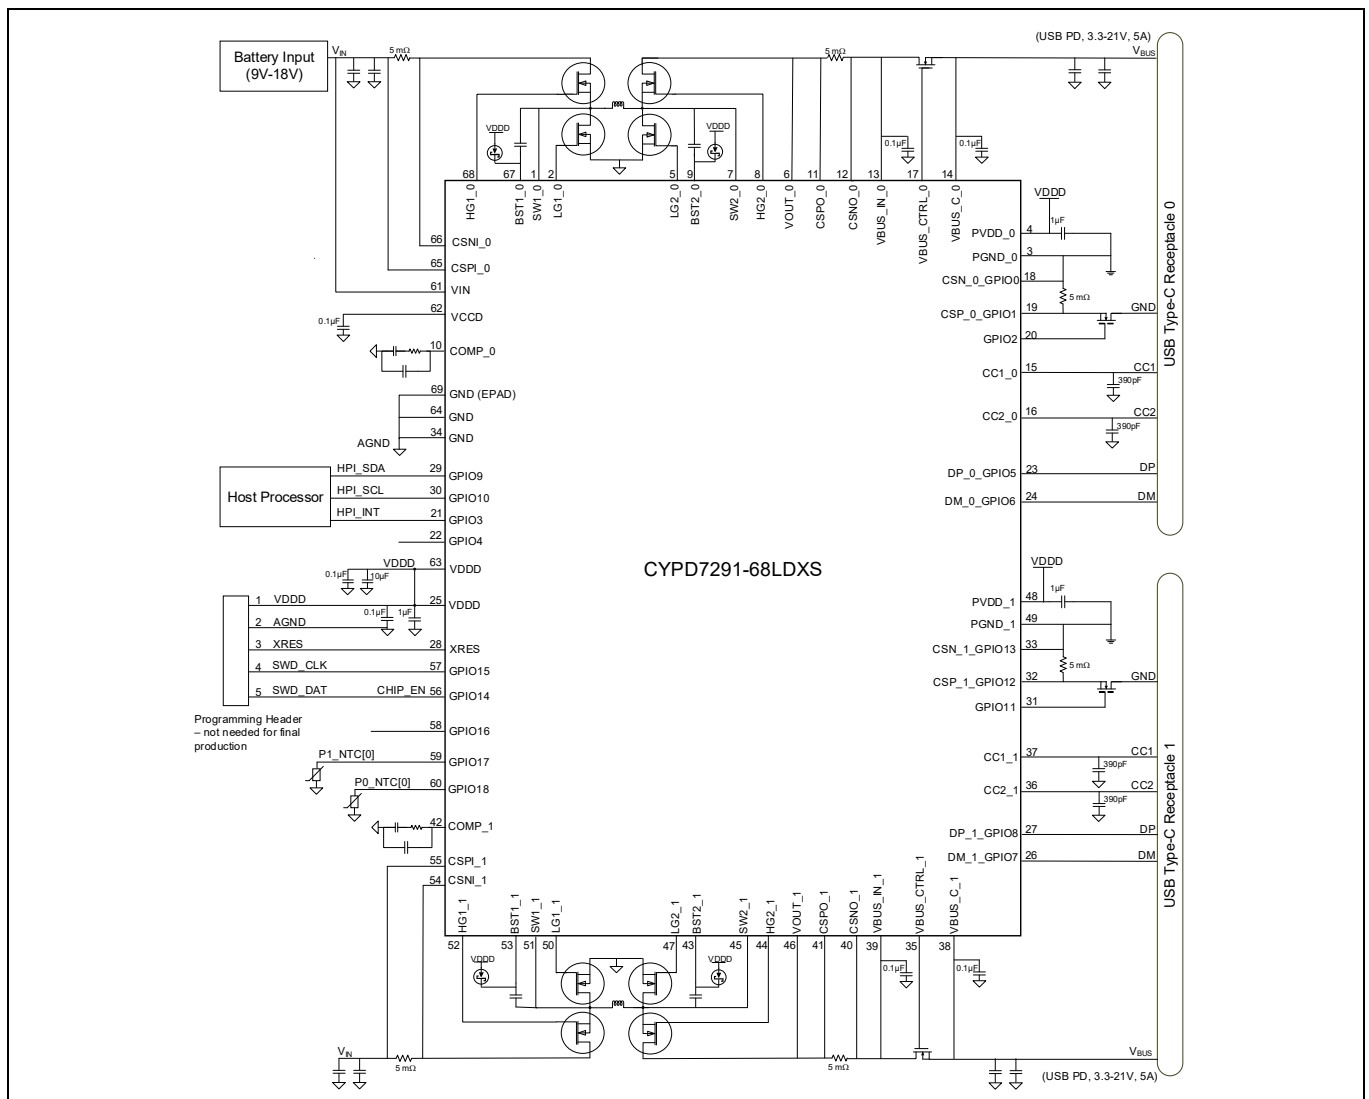

Figure 14 EZ-PD™ CCG7D head unit charger application diagram
Figure 14 shows a typical head unit charger application block diagram using EZ-PD™ CCG7D. A head unit charger (also known as center stack) is located prominently in the center of the dashboard or console. They are powered by the car battery and are used for charging the mobile/tablet and for media transfer using USB data communications. In this application, EZ-PD™ CCG7D will always be in DFP role supporting the charging of the device. It negotiates the power with the connected device and uses the integrated buck-boost controller to supply the required voltage and current.
Table 4 Head unit (HU) GPIO pin mapping for application diagram in Figure 14